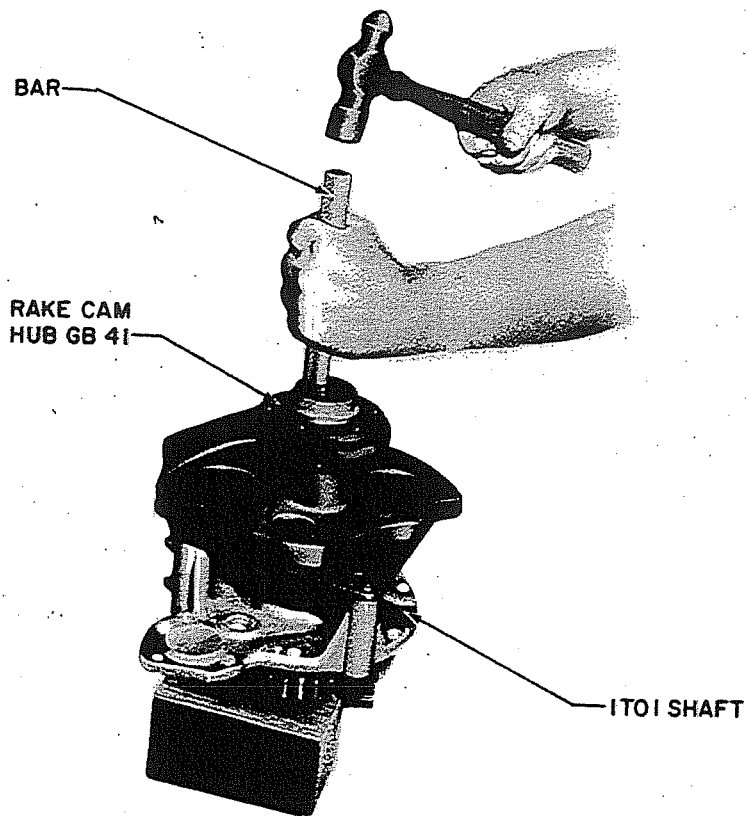

Figure 38. 1 to 1 Shaft, Installation of Rake Cam Hub GB41
- Z. Rake Cam Hub GB41 (page 5 of Parts Catalog) can be installed by securing the bearing pulling attachment behind the hub and applying pressure to the shaft. The hub can easily be driven onto the shaft by hand, using a hammer and bar (figure 38). The shaft should be cleaned and lubricated prior to assembly.